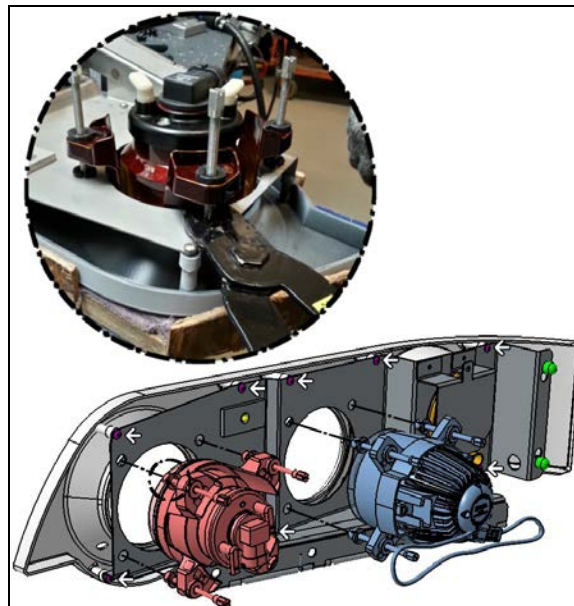
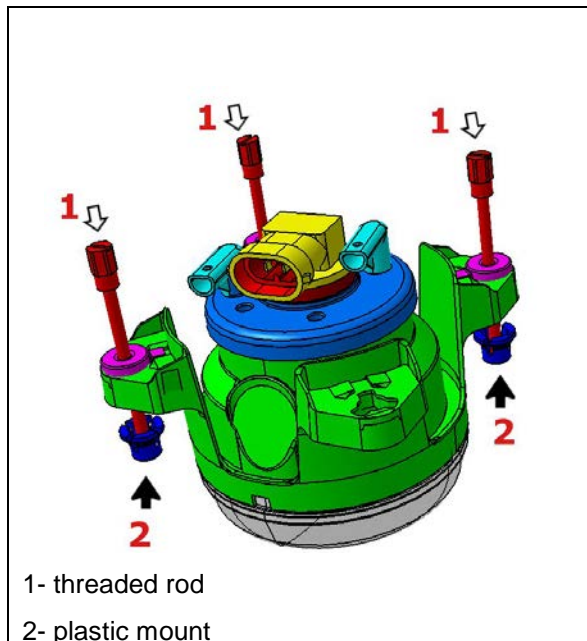

FIGURE 68: UNFASTEN PLASTIC MOUNTS
FIGURE 69: HEADLAMP MODULE
4. Unfasten three plastic mounts (see Figure 68 and item 2 on Figure 69) from the headlamp module support and discard the damaged headlamp module.
5. Install three new threaded rods (item 1, Figure 69) on new headlamp module.
7. Snap new plastic mount on threaded rods (3x) (Figure 69).